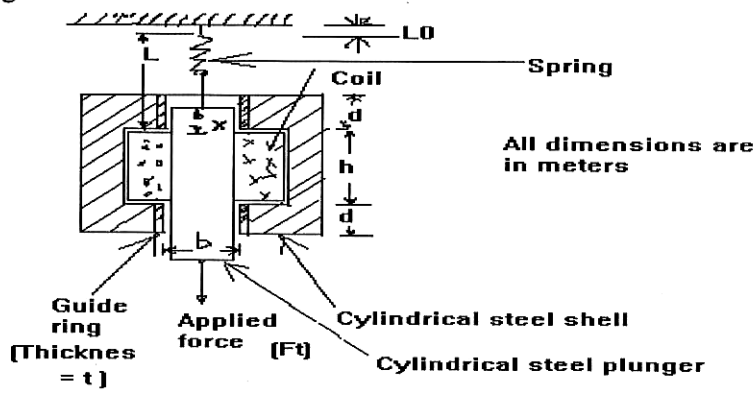

Fig.3
2. Cross section of a cylindrical **solenoid magnet** is shown in fig.3; which shows the cylindrical plunger of mass 'M' kg. moves vertically in brass guide rings of thickness 't' meter and mean diameter 'b' meter . The permeability of brass is the same as that of free space. The plunger is supported by a spring whose elastance is 'K' newtons/m. Its un-stretched
For the electromechanical system shown in **fig.3**, considering linearized incremental dynamic equations of motion of the system operating for incremental motion around a quiescent point, develop the **equivalent circuit** where the mechanical variables and parameters are replaced by electrical variables and parameters:- mechanical forces by currents, velocities by voltages, masses by capacitances and spring constants by reciprocal inductances and friction coefficients by conductances.